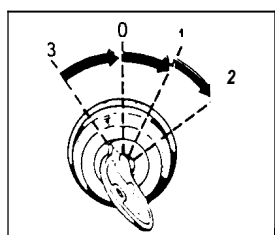

Fig. 22. Starter switch key.
4. Insert the starting key and turn it to position 1 in fig. 22.
6. Push the starter switch key and turn clockwise to position 2 in fig. 22. Hold the key there until the engine starts. The key when released will return to the switched on position (position 1 in fig. 22).
NOTE: The starter switch is also the main switch for the electrical system of the engine. Because the engine is equipped with an alternator the starter switch key must not be turned to off (position 0 in fig. 22) when the motor is running as the alternator rectifier diodes could be damaged. For the same reason the battery cables should never be disconnected or reconnected to another battery while the engine is running.